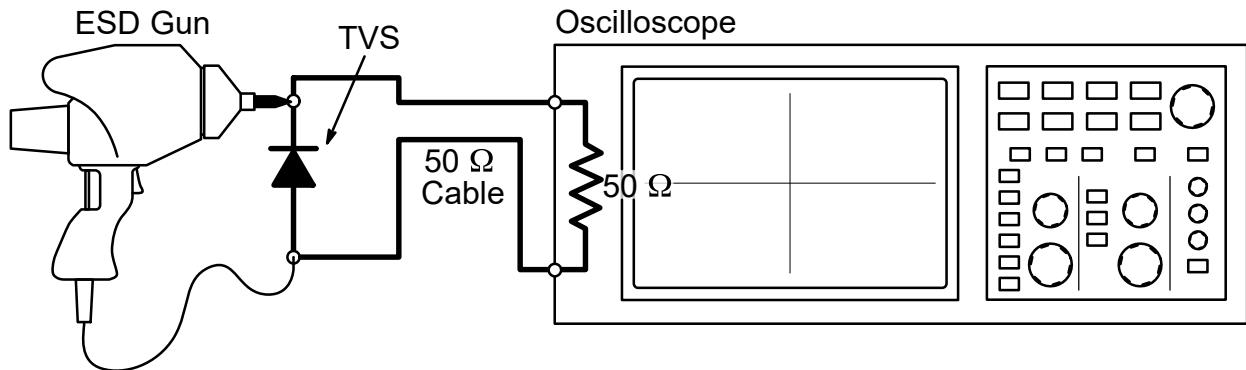

Figure 5: Diagram of ESD Test Setup
1. Nonrepetitive current pulse per Figure 5 (Pin 5 to Pin 2).
4. Nonrepetitive current pulse per Figure 5 (Pin 5 to Pin 2).
5. Surge current waveform per Figure 5.